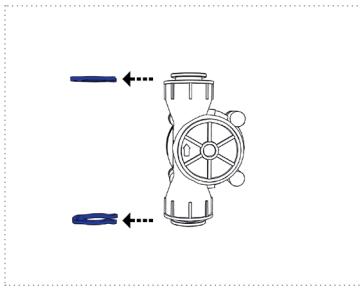
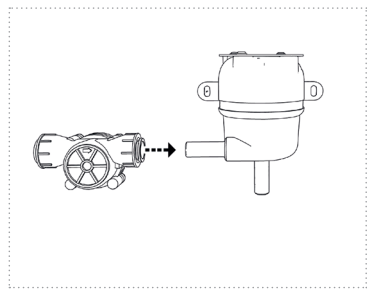
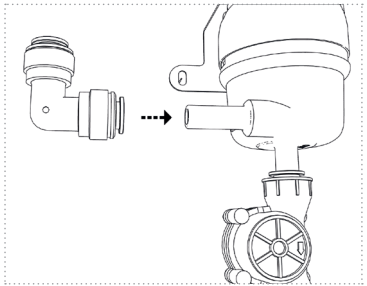

Figure 10
Figure 11a
Figure 11c
4. Remove the safety rings from the flow sensor (Figure 10). Depending on the installation preference, slide the flow sensor onto the water connection „IN“ or „OUT“ of the reactor (Figures 11a and 11b). **IMPORTANT:** Observe the flow direction on the flow sensor (marked by an arrow). Now plug the included angle connector onto the free water connection of the reactor (depending on where the flow sensor is located (Figure 11c))